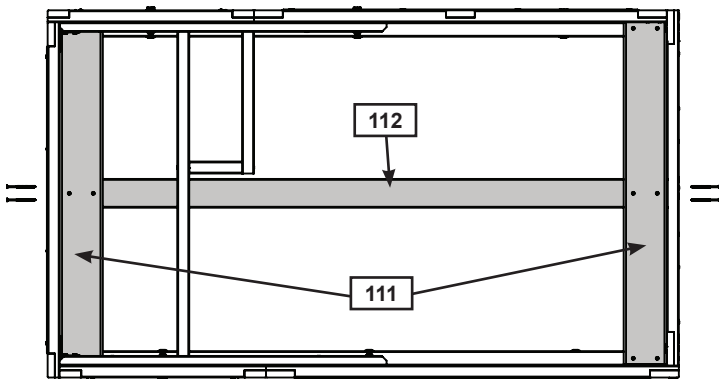

Fig. 11.1
A: Place 1 (111) Floor Board tight to (060) End Panel and 1 tight to (071) SW Wall Panel then attach each to the (082) Side Joists with 4 (S20) #8 x 1-3/8" Wood Screws per board. (fig. 11.1, 11.2 and 11.3)
B: Place (112) Long Floor Joist tight to the bottom of each (111) Floor Board, centred over the pilot holes on the (060)End Panel and (071) SW Wall Panel then attach with 2 (S4) #8 x 3" Wood Screws per panel. Attach (111) Floor Board to (112) Long Floor Joist with 2 (S20) #8 x 1-3/8" Wood Screws per board. (fig. 11.1, 11.2 and 11.4)